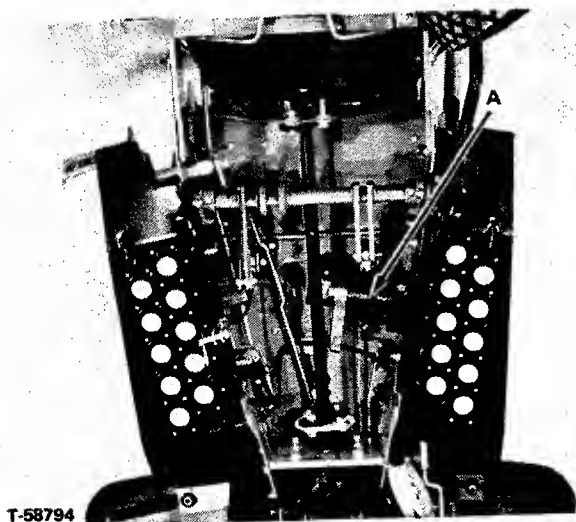

FIGURE 5 - Grease Fittings
- c. One fitting on steering gear under tractor (Figure 5);